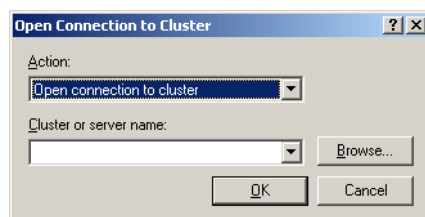

Figure 23-38 Open connection to cluster
1. Select **Start** → **Program Files** → **Administrative Tools** → **Cluster Administrator**. The Cluster Administrator starts and the Open Connection To Cluster window appears, as shown in Figure 23-38.